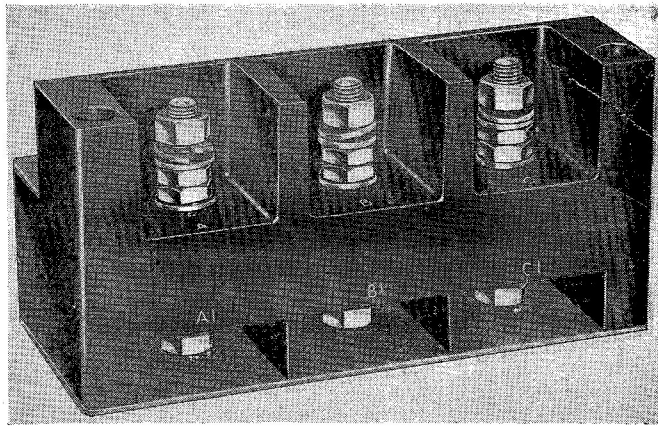

Fig. 1. General view of Type P 6601 transformer
2. The three windings are individually mounted in a moulded block (fig. 1) and are cemented in position. A cover is provided for the six 4 B.A. terminals and is secured by three 4 B.A. securing screws.